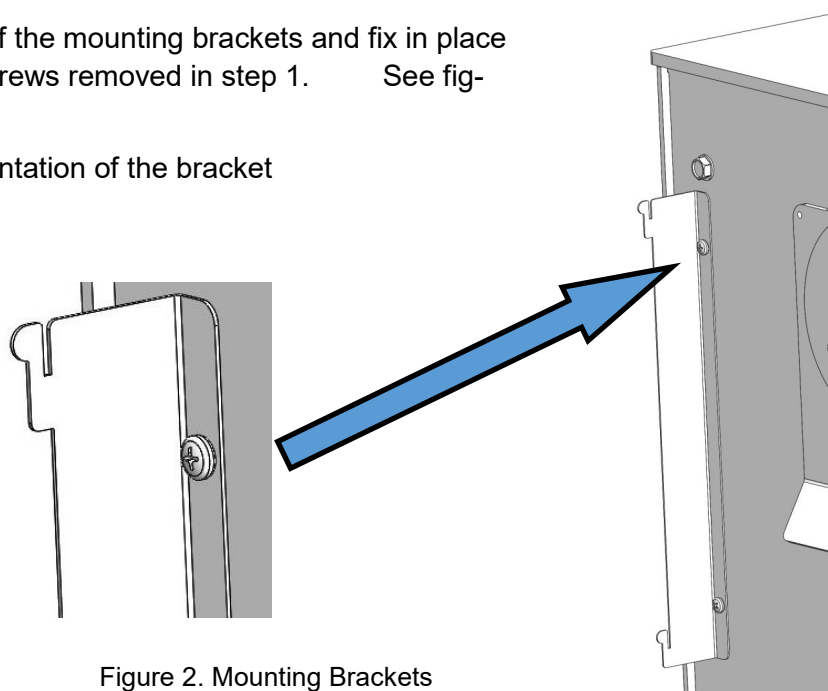

Figure 2. Mounting Brackets
Step 2 : Take one of the mounting brackets and fix in place using 2no. Of the screws removed in step 1. See figure 2.